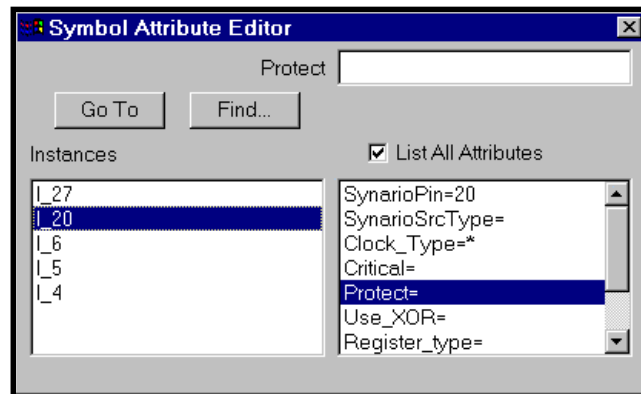

Figure 4. Symbol Attribute Dialog Box
3. Click on the name of the attribute you want to modify. The attribute name and its current value appear in the edit box (Figure 4).